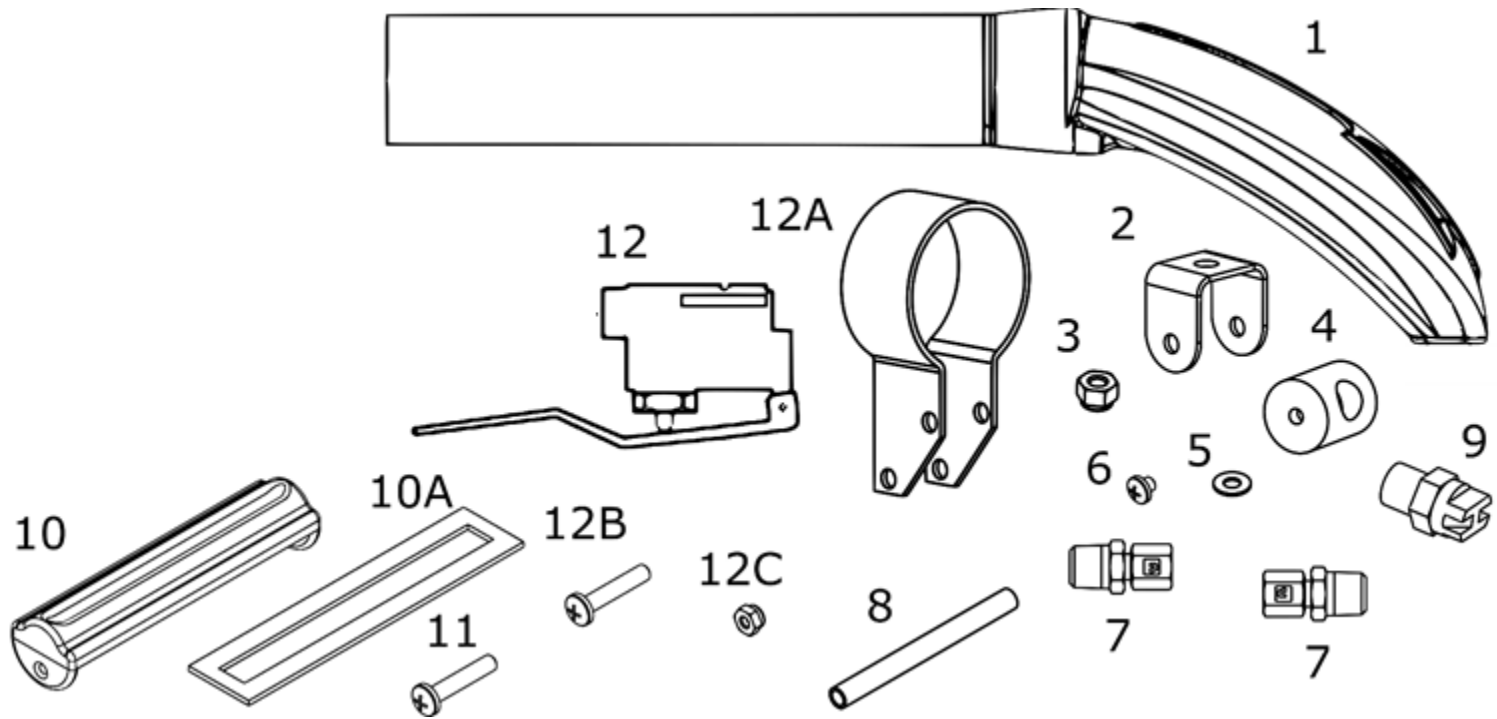

**Figure 2**
7. Turn on the pump (figure 2, set the switch to the right to turn on both the pump and the vacuum and to the left to turn on only the vacuum. Middle position is off) and spray through your cleaning tool for a few seconds to fill the lines with water, then turn the switch off.
9. Turn on both the pump and vacuum (figure 2)